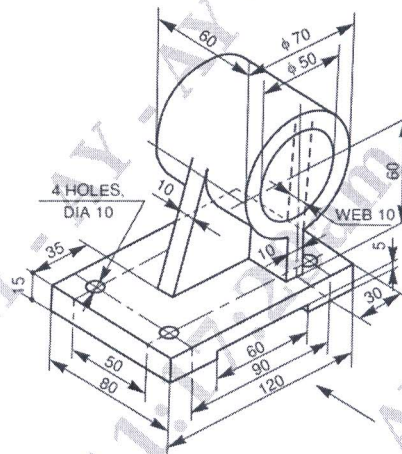

Figure 1
1. Draw the (i) the sectional view from the front and (ii) the view from the left of a shaft support shown in the figure 1. **(20 Marks)**